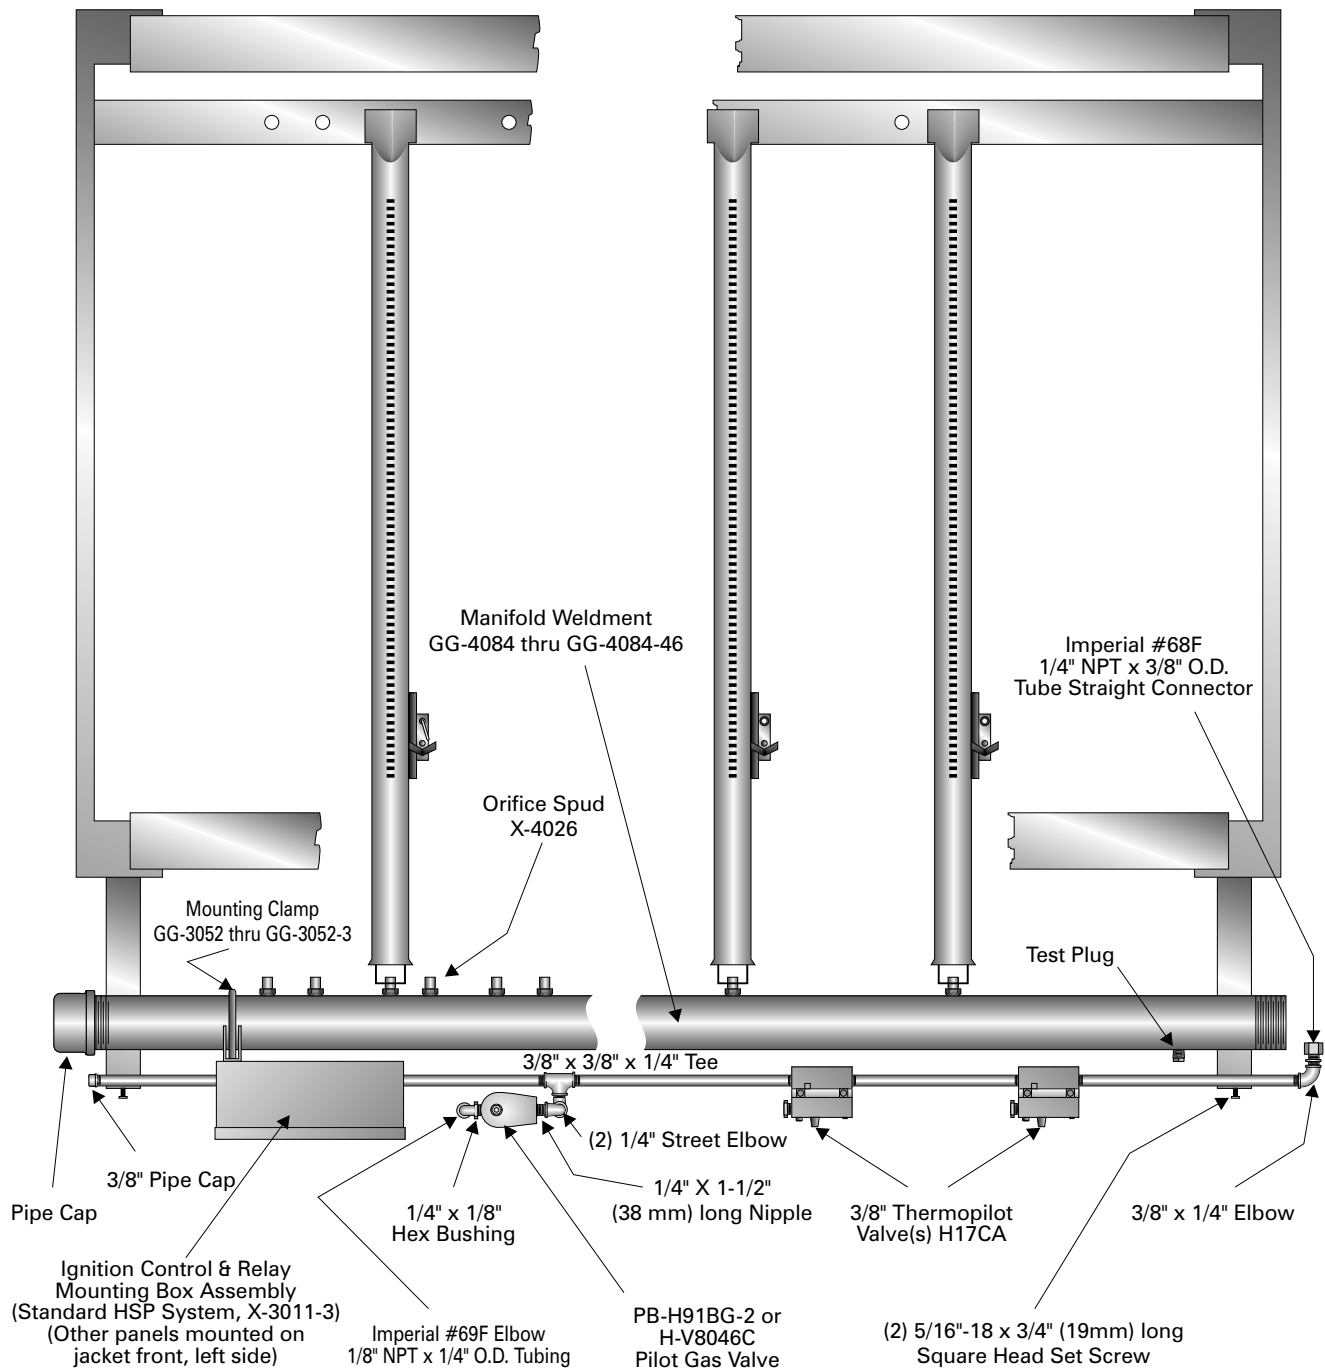

Figure 2.5: Typical Gas Manifold and Pilot Line Assembly
3. Place Manifold on front of Base. Bolt the hangers using 5/16"-18 x 1" (25 mm) long long cap screws with 5/16" flat washers. See Figure 2.5.